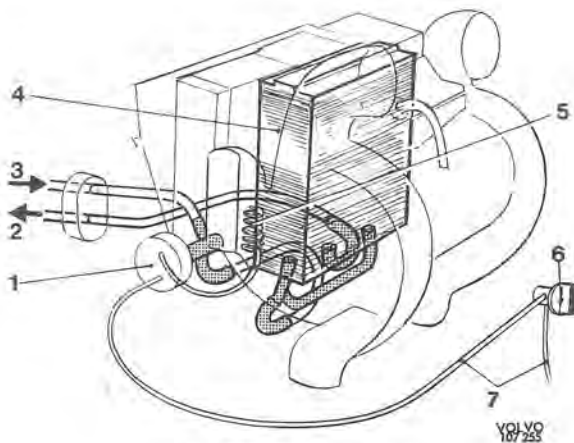

Fig. 8-36. Heating system
The heater system in the combined unit consists of a cell assembly and a heater control valve. The cell assembly (4, Fig. 8-36) is located in the central unit, while the heater control valve (1) is placed underneath.